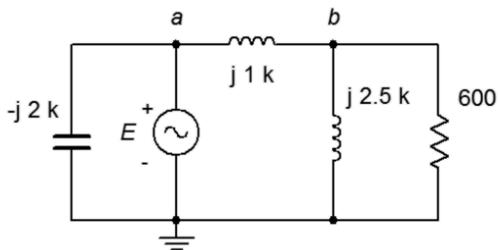

Figure 5.22
43. For the circuit of Figure 5.22, determine the Thévenin and Norton equivalents that drive the  $600\ \Omega$  resistor if the source  $E = 12\angle0^\circ$ .
44. Given the circuit of Figure 5.22, determine the Thévenin equivalent that drives the  $j1\ \text{k}\Omega$  inductive reactance if  $E = 9\angle0^\circ$ .
45. Given the circuit of Figure 5.22, determine the Norton equivalent that drives the  $j2.5\ \text{k}\Omega$  inductive reactance if  $E = 24\angle45^\circ$ .
46. Use Thévenin's Theorem to find  $v_b$  in the circuit of Figure 5.22 if  $E = 18\angle0^\circ$ .
74. Consider the  $600\ \Omega$  resistor to be the load in Figure 5.22. Determine a new value for the load in order to achieve maximum load power. Also determine the maximum load power.